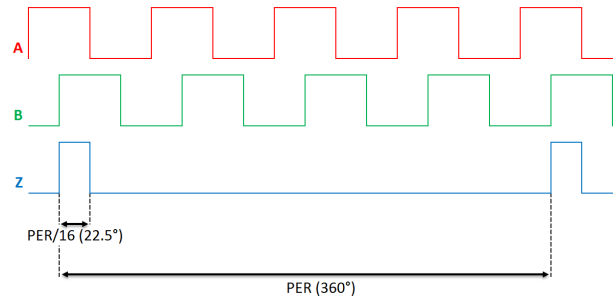

Figure 19: Calibration using incremental signals Calibration using incremental signals when rotating clockwise according to Figure 6
Step 3: Set $CFGRES = 0x03$ (16 edges per 360° rotation). Adjust $HARMCAL$ so that the duration of the Z Pulse is exactly $PER/16$. Please refer to Figure 19.